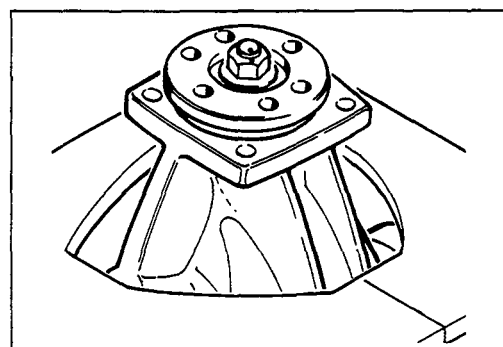

Figure 6
- If items 2 and 3 are O.K., measure the PINION PRE-LOAD TORQUE for reference only, (axles with higher mileage will show lower readings and are difficult to measure accurately) mark the pinion end, pinion nut and companion flange also noting the number of threads that protrude through the pinion nut. This will make it possible for the pinion nut to be tightened to exactly the same position on re-assembly. (see Fig. 6).